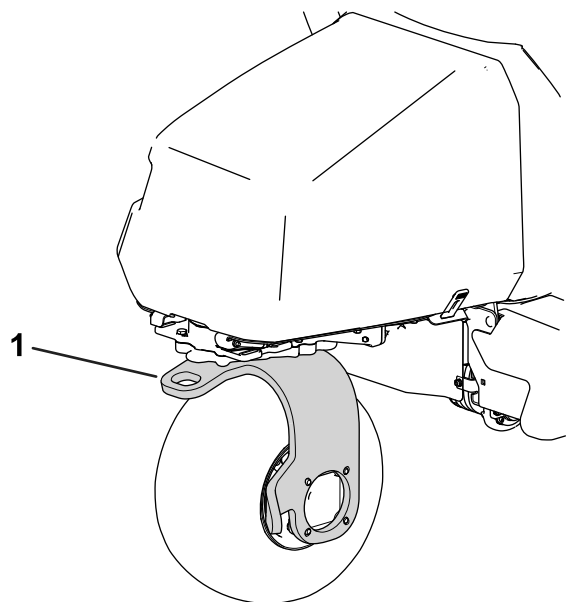

Figure 41
13. Use the rear castor fork to tow the machine (Figure 41).